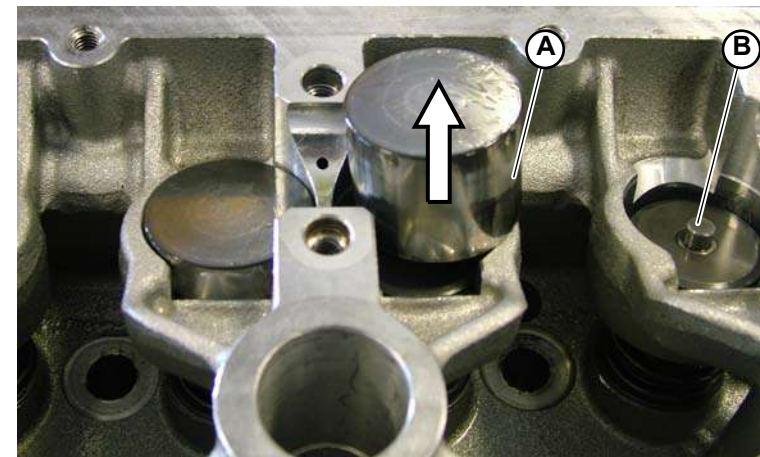

Fig.2
- Remove the tappets (**A-Fig.2**) from their housings.
- Remove the spacers (**B-Fig.2**) positioned underneath the tappets.
4. Using the special tool (**A-Fig.2**), press the spacer ring to insert the 2 cotters (**B-Fig.2**).